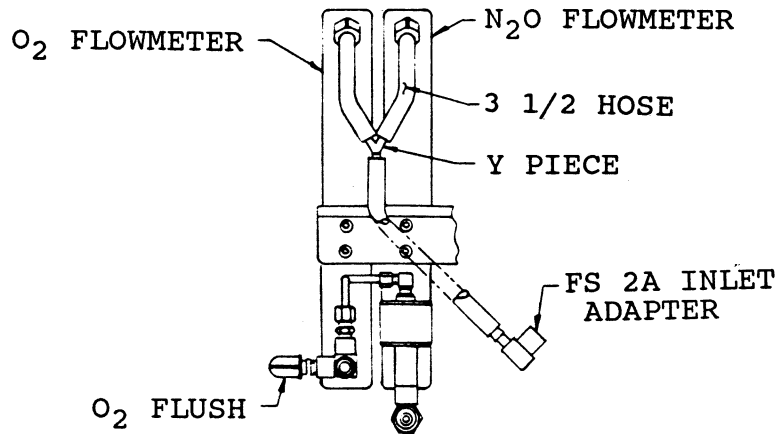

FIGURE 6 - HOSE CONNECTIONS (DUAL FLOWMETER)
5. Connect the two 3-1/2-inch hoses to the "Y" connector and connect the long hose to the center leg of the "Y" hose (see Figure 6).
6. Push one end of the long tube onto the center leg of the "Y" connector and connect the other tube end to the vaporizer inlet (see Figure 6) using the FS2A inlet Adapter.